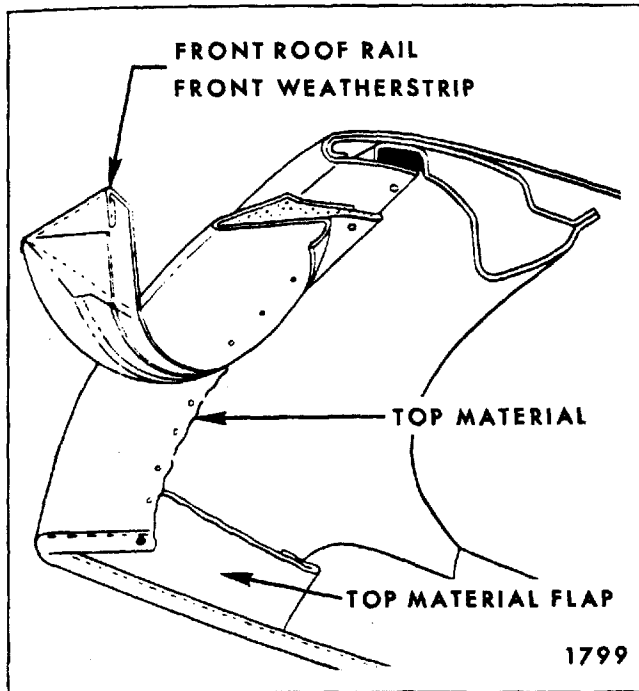

Fig. 6-2—Top Material At Front Roof Rail
10. Detach top material from front roof rail (Fig. 6-2).
11. Detach top material flaps from side roof front rail (Fig. 6-2).